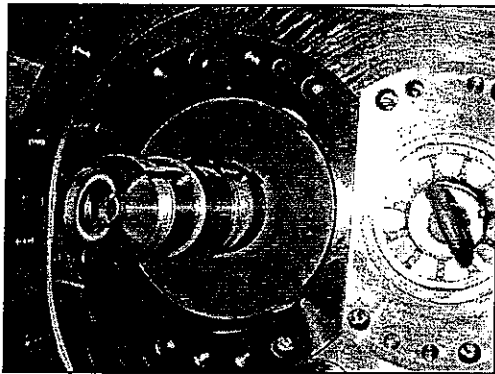
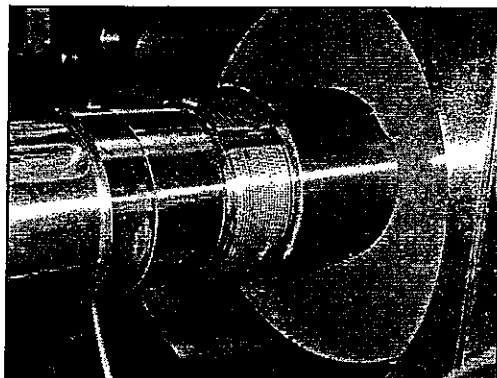

Fig. 3-24
Fig. 3-25
- (14) Install Thrust Disc (A07), (A08) (Fig. 3-24) and Sleeve (A05), (A06) (Fig. 3-25) to rotor shaft.